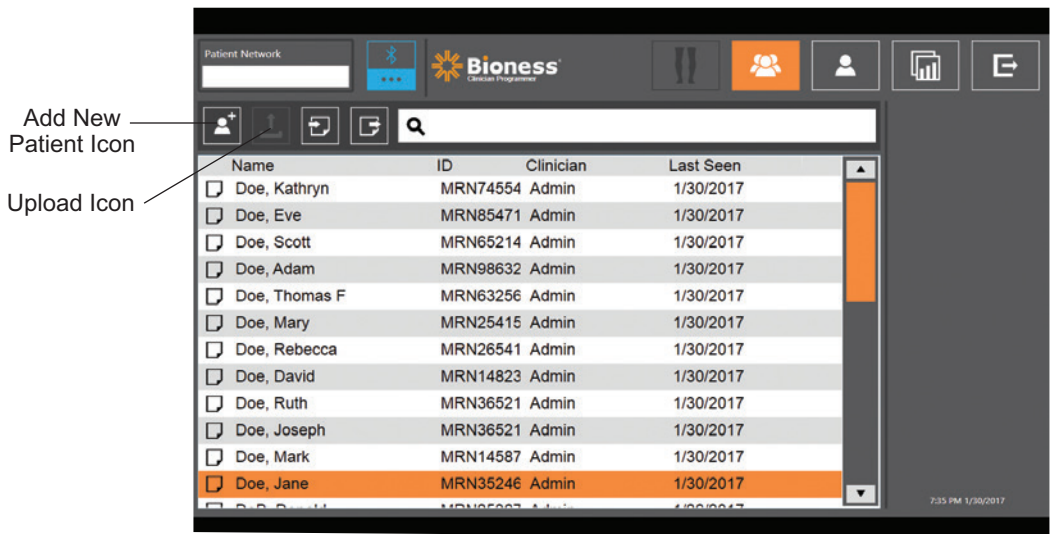

Figure 9-3: Add New Patient Icon
2. From the Patient Database Screen, press the Add New Patient icon. See Figure 9-3.
2. Open the Patient Database Screen and highlight the patient from the Patient List. See Figure 9-3.
3. Press the Upload icon. See Figure 9-3. A window will appear stating "Program all stimulators with patient: X,X". Press the Continue button.